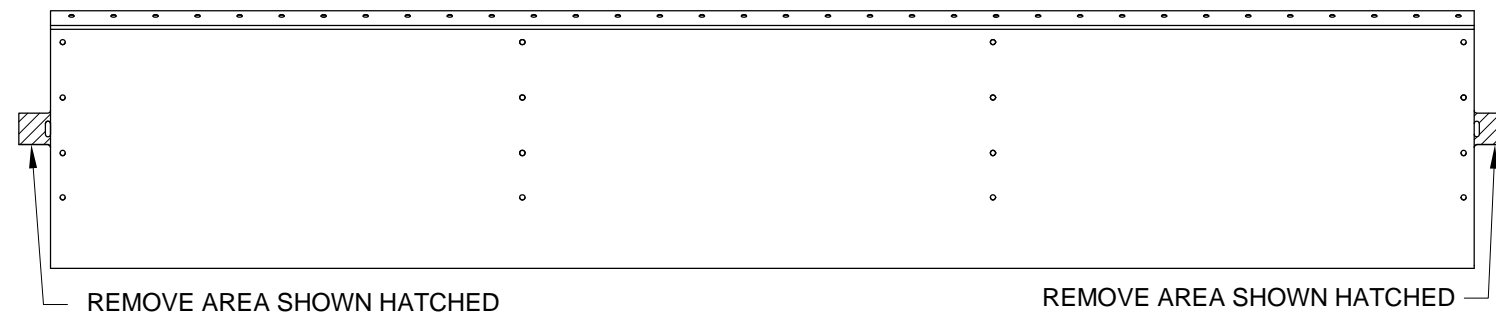

FIGURE 1:
Revised Figure 1, 2, 3 to depict HS-1230.
Step 2: Remove the material shown hatched from the bottom half of the HS-1221-L AST Skin as shown in Figure 1.